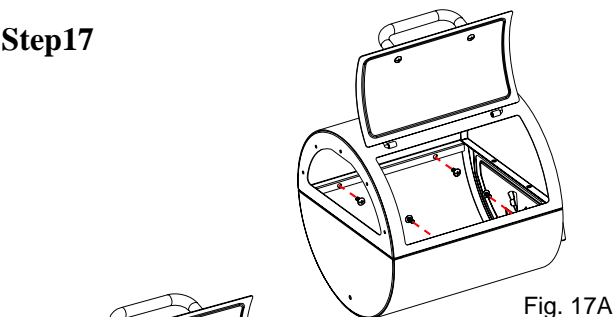
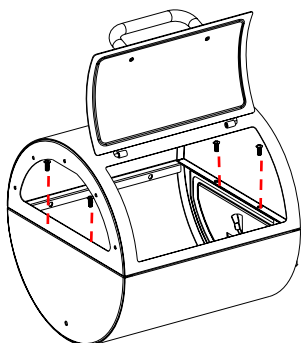

Fig. 17A
Fig. 17B
Refer to Fig. 17A and Fig. 17B. Note- the clean-out door is in the BOTTOM half and facing to the RIGHT. The smoke passage opening is in the TOP half and is facing to the LEFT. Fasten the two halves together using (8) M6X15 bolts as shown.